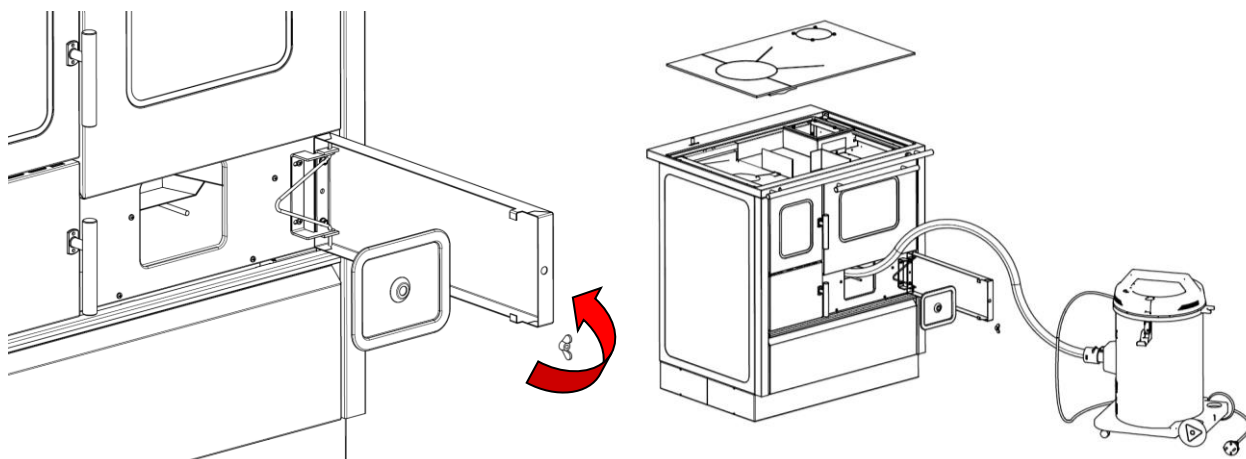

Figure 12
- Cleaning of soot and deposits on the underside of the oven (the area where flue gases pass) is recommended to be done once or twice during the season (Figure 12).